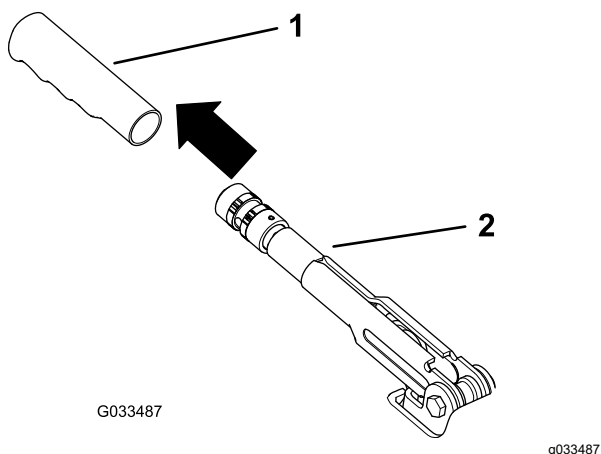

Figure 58
1. Remove the rubber grip from the parking-brake lever (Figure 58).
5. Install the rubber grip onto the parking-brake lever (Figure 58).